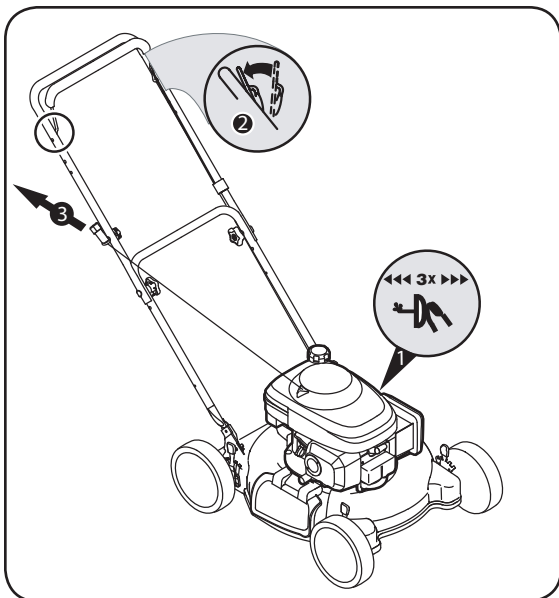

Figure 5-2
2. Standing behind the unit, depress the blade control handle and hold it against the upper handle as shown in Figure 5-2.